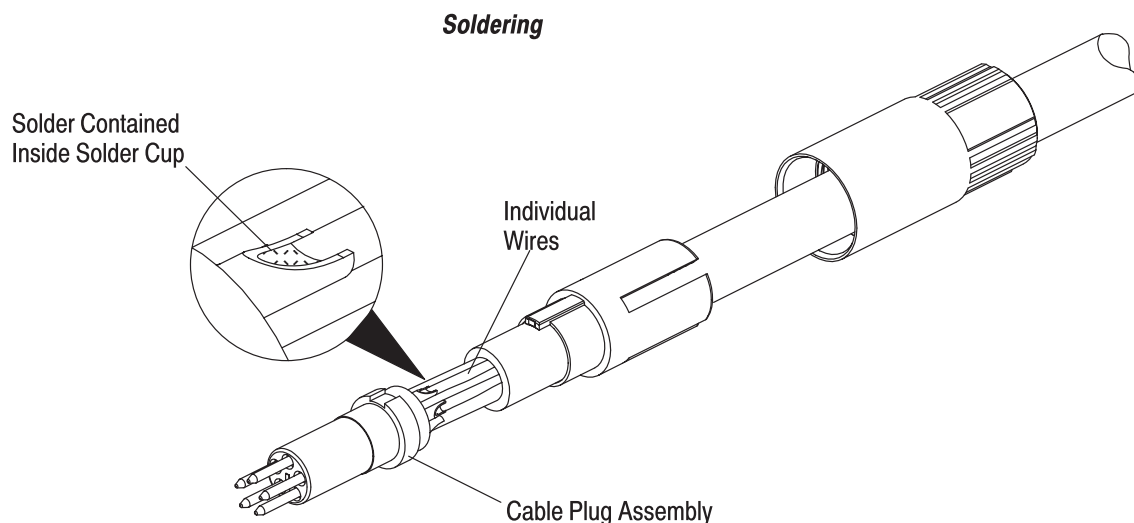

Figure 3
3. The solder cup must be full with the solder contained inside the cup. Refer to Figure 3.